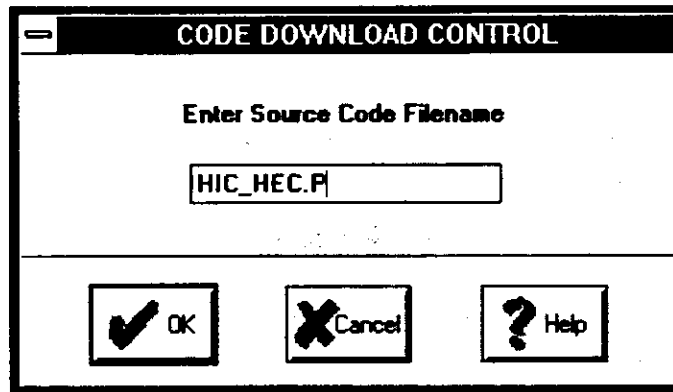

Figure 4-9. HIC Source Code Filename in CODE DOWNLOAD CONTROL Dialog
- e. In the box below *Enter Source Code filename*, type in the name of the file to be downloaded: HIC_HEC.P (see Figure 4-9). Click on OK.